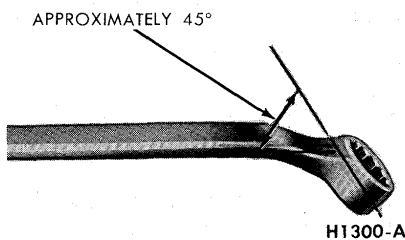

FIG. 1—Wrench for Bleeding Brake Hydraulic System
1. Position a suitable $\frac{3}{8}$ -inch box wrench (Fig. 1) on the bleeder fitting on the right rear brake wheel cylinder. Attach a rubber drain tube to the bleeder fitting. **The end of the tube should fit snugly around the bleeder fitting.**
3. Position a $\frac{3}{8}$ -inch box wrench (Fig. 1) on the bleeder fitting on the right rear brake wheel cylinder. Attach a bleeder tube to the bleeder fitting. **The end of the tube should fit snugly around the bleeder fitting.**